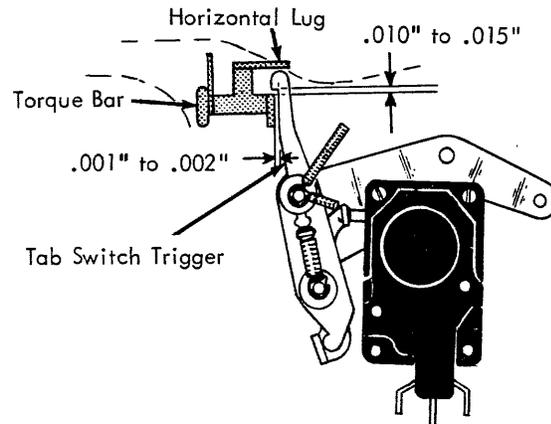

FIGURE 173. Tab Interlock Switch (Late)
NOTE: On machines with the new style (Fig. 173) interlock contact form the upstop up out of the way.
13. Tab Interlock Switch (Late) (Fig. 173) -
- a. Tab Switch Trigger - with the tab torque bar in the rest position, form the horizontal lug on the left end of the tab torque bar, so that .010" to .015" exists between the tab switch trigger and its latching surface (Fig. 173).
2. Front to Rear - so a .001" to .002" clearance (Fig. 173) exists between the tab switch trigger and the rear edge of the tab torque bar extension. This clearance insures that the tab interlock switch is not partially activated in the rest position.